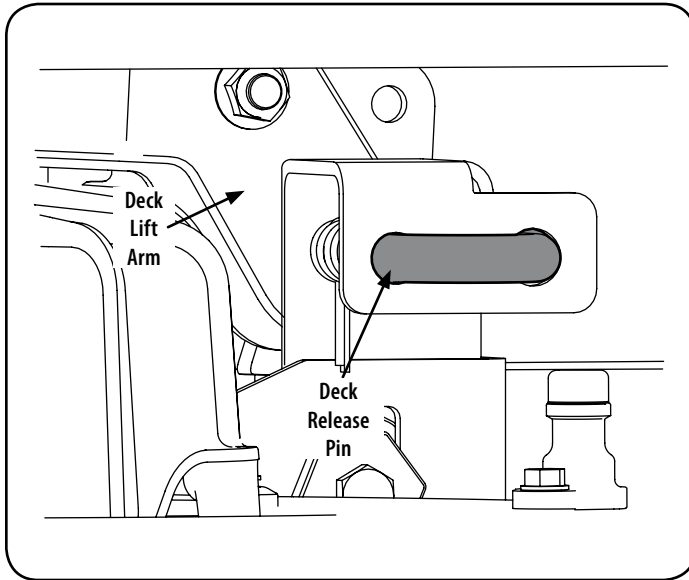

Figure 37
- Locate the LH and RH deck release pins on each side of the deck. Pull the release pins outward and release the deck from the LH and RH deck lift arms. See Figure 37.
- Pull the deck release pins outward and maneuver the deck as necessary to align the holes in the deck lift arms with the pins. Refer to Figure 37.